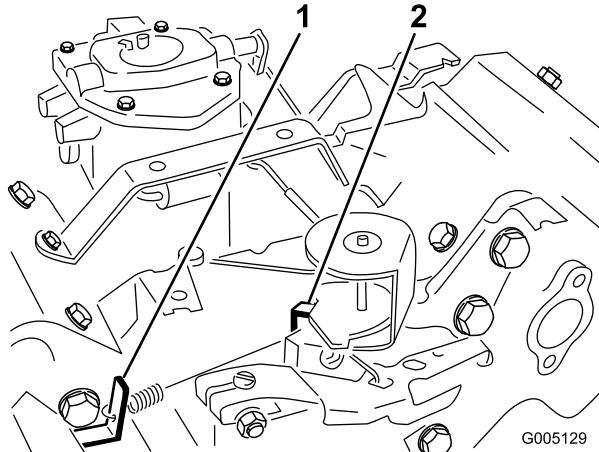

Figure 50
3. Bend the governed idle spring anchor tang (Figure 50) to attain an idle speed of 1650 ± 100 RPM. Check the speed with a tachometer.
5. Move the throttle control to the Fast position. Bend the high speed spring anchor tang (Figure 50) to attain a high speed of 2850 ± 50 RPM.